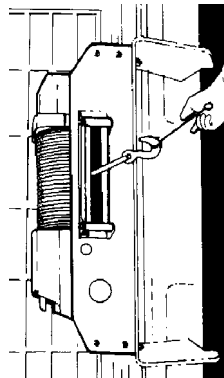

Figure 3
8. **KEEP CLEAR OF WINCH WIRE ROPE AND HOOK WHEN OPERATING WINCH.** NEVER put your fingers through the hook when reeling in or out the last few feet of rope near the hook. If your finger should become trapped in the hook, you could lose your finger. Use the **HANDBSAVER BAR** (Figure 3) to guide the hook within the last few feet. Never guide a wire rope onto or off the drum with your hand.
DO NOT use the winch for this last ten feet of wire rope since the wire rope end fastener will NOT support a heavy load. The "safety stripe" at the hook end of the wire rope warns you that the wire rope is almost rewound. **ALWAYS USE THE HANDBSAVER BAR** when handling the hook (Figure 3). As you use your winch, the red paint will wear off due to normal wear. When this happens, you should renew the red paint as it is a safety feature of the winch.